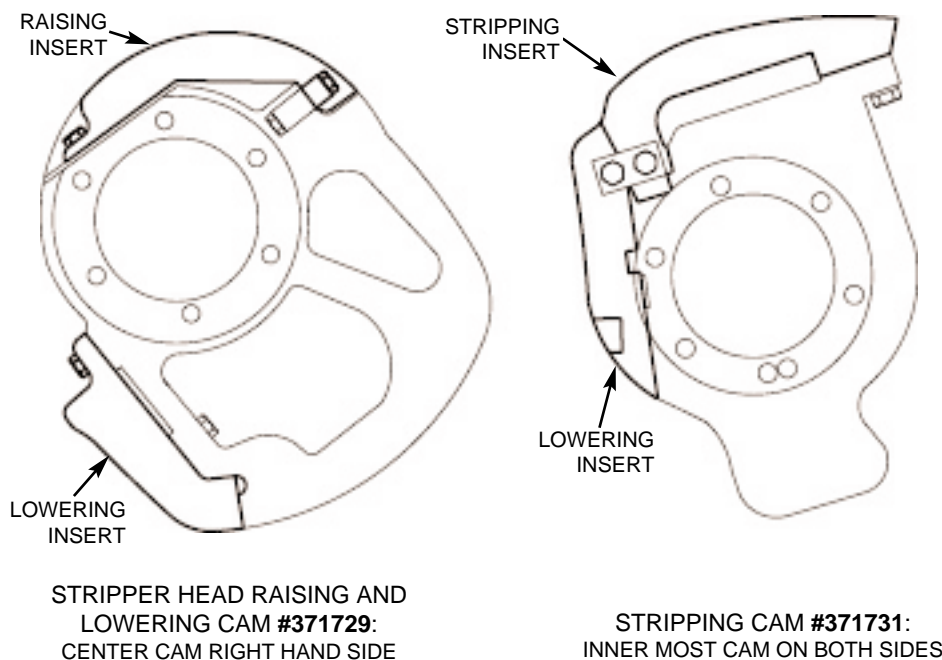

Figure 4.26 CAM INSERTS.
4.2.4 Install stripping cam insert **# 371731** on each side of the machine and one stripper head raising cam insert **# 371729** on the right side of the machine (see figure 4.26).